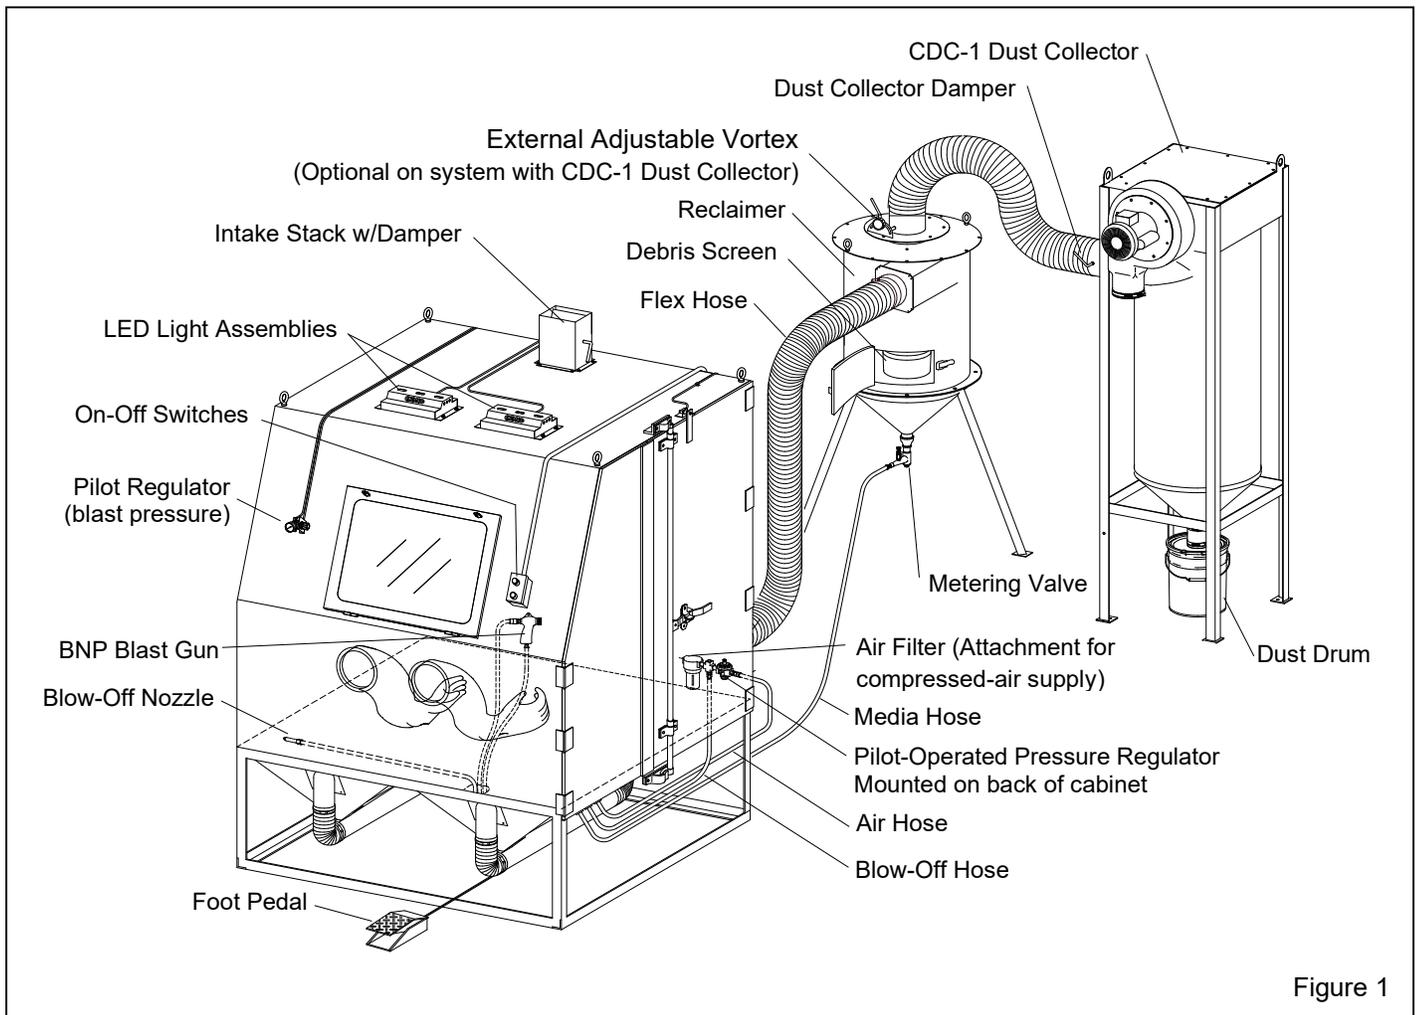

Figure 1
1.4.3 Refer to Figure 1 for arrangement of components with a CDC-1 Dust Collector. The illustration shows a freestanding 900 reclaimer. 1200 and 1800 cfm reclaimers have minor differences. Figure 2 shows the arrangement with an RPC-2 Reverse-Pulse Dust Collector with dust drawer. The optional RPH is set up the same way as the RPC-2, but includes a hopper for additional dust storage and empties into a drum. The overall height of an RPH-2 is approximately 10.5 feet and 12 feet when the top access door is open. To upgrade, an RPC-2 or RPH-2 Dust Collector may be added at any time.
1.6.1 CDC-1 Dust Collectors: Shown in Figure 1, CDC-1 Dust Collectors are standard with BNP cabinets with 900 cfm reclaimers, unless an optional RPC-2 or RPH-2 Dust Collector is ordered at time of purchase. The single-filter cartridge is cleaned by using a manually controlled pulse of compressed air. Dust collects in a 5-gallon dust drum, which must be frequently emptied. Refer to manual number 28225.
2.1.1 Refer to Figures 1 (and Figure 2 for optional RPC-2 Dust Collector) for the general arrangement. Place all components in a convenient location where compressed air and electrical service are available. The cabinet location must comply with OSHA and local safety codes. Allow for full access to all doors and service areas, and for efficient handling of large parts. Provide enough clearance at the dust collector for maintenance and to remove the dust container. Place freestanding reclaimers directly behind the cabinet with flex hose connections and metering valve facing toward the cabinet to allow for as few bends as possible to prevent wear. Determine the best location for all components and position them before making compressed-air connections, electrical connections, and attaching flex hose.